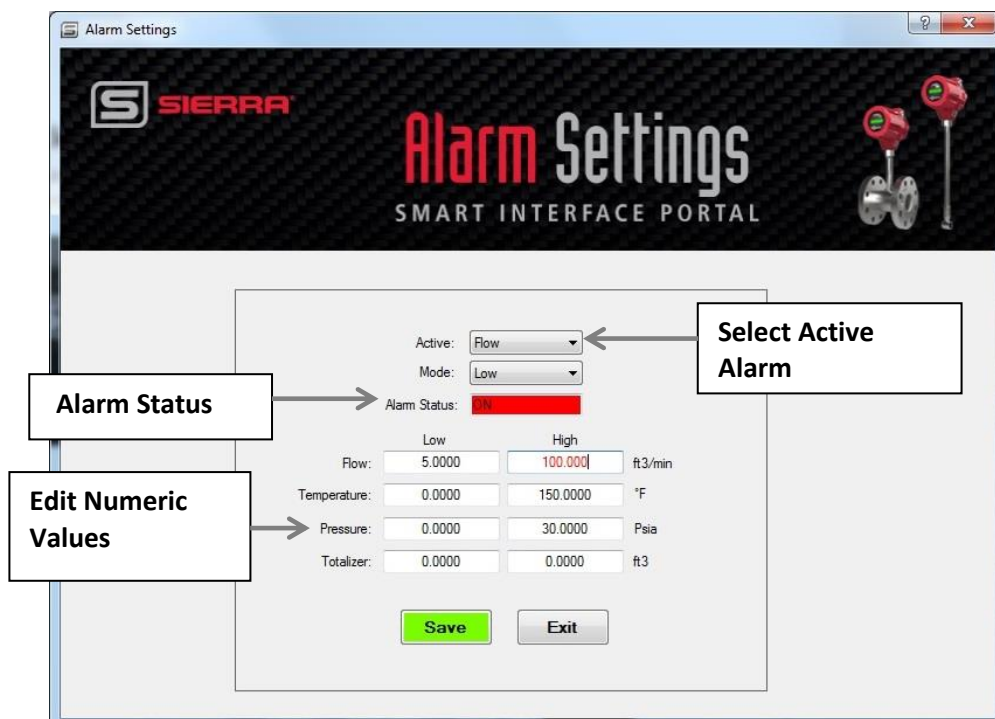

Figure 11. Alarm Settings Main Menu
To use the Alarm Settings (See Figure 11):
- 6) Click the “Save” button and all edited values will be written into memory (See Figure 11).
In this example (See Figure 11):